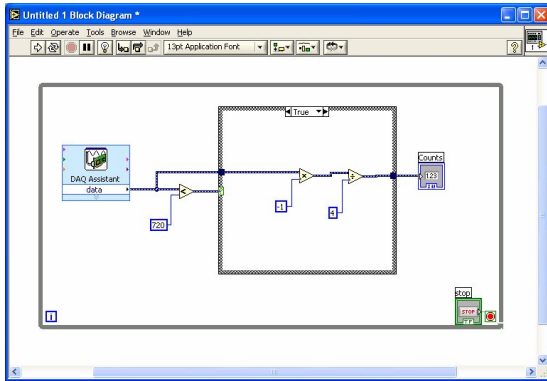

Figure 2A: TRUE Case Structure (counter decrement reflects clockwise rotation)
Step 2: Start the following block diagram with a case structure enclosed in a while loop. The TRUE and FALSE cases are given in **Figures 2A** and **2B** below. Set the numeric indicator data representation to be Integer 32-bit. For the FALSE case, the counter value is subtracted from the number 16777215 (i.e. $2^{24} - 1$) because a 24-bit optical encoder is used.